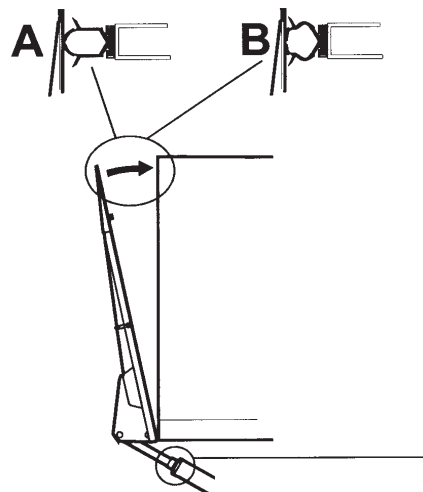

Figure 29. Adjusting the fit to the vehicle body
4. Turn the adjuster sleeve until the platform fits perfectly (A) against the seal on the body. Figure 29.
9. Adjust both cylinders alternately until the platform touches the vehicle body; see Figure 29 (B).